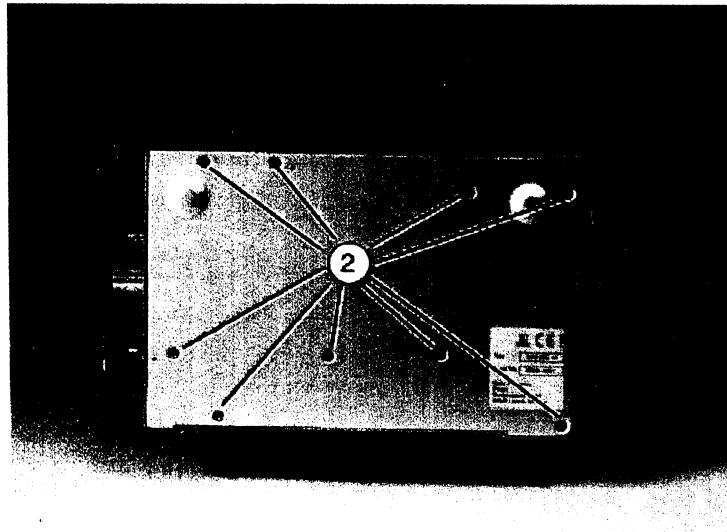

Fig. 2 Rear panel fixing screws
6. Remove the rear panel fixing screws Fig. 2/2.